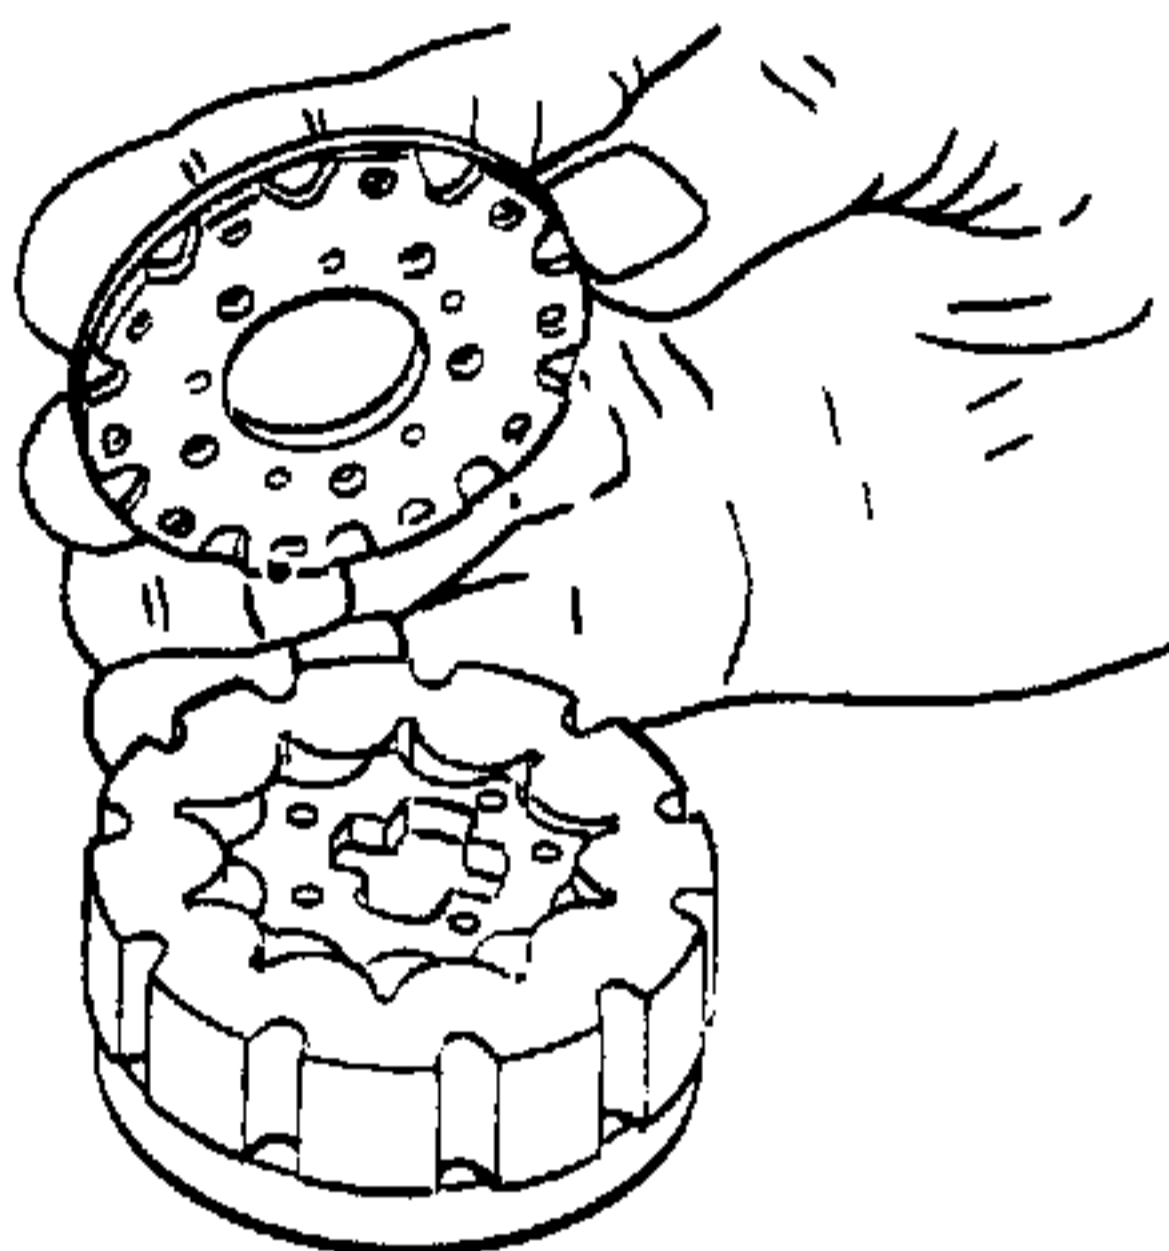

Figure 5-42. Installing Commutator and Ring Assembly.
4. Install retaining plate (32), washer (31) and retaining ring (30) on input shaft (29) after first applying small amount of grease to face of retaining plate and washer.
5. Install input shaft (29) in upper cover and tube assembly (33).
6. Install upper cover plate (26) with polished surface up and edge with alignment groove in the same position as before disassembly. Apply grease to upper face of cover plate and to drive plate end of input shaft.
7. Assemble back-up ring (22) and face seal (21) onto spacer seal (23) after applying grease to face seal.
8. Install assembled spacer seal (23), back-up ring (22) and face seal (21) over drive plate end of input shaft and onto upper cover plate (26).
- a. Place drive plate (20) on clean lint-free surface with eleven tapped holes facing up.
- b. Place rotor assembly (19) on top of drive plate (20) with five pin holes facing up. Rotate inner part of rotor assembly (19) until eleven screw relief slots are aligned with tapped holes in drive plate.
- c. Apply grease to drive link spacer (18) and install in rotor assembly (19).
- d. Install commutator and ring assembly (17) after first applying a few drops of oil. Refer to Figure 5-42 to be sure proper side of commutator and ring assembly (17) faces rotor assembly (19). Align rotor screw slots with commutator screw recesses.